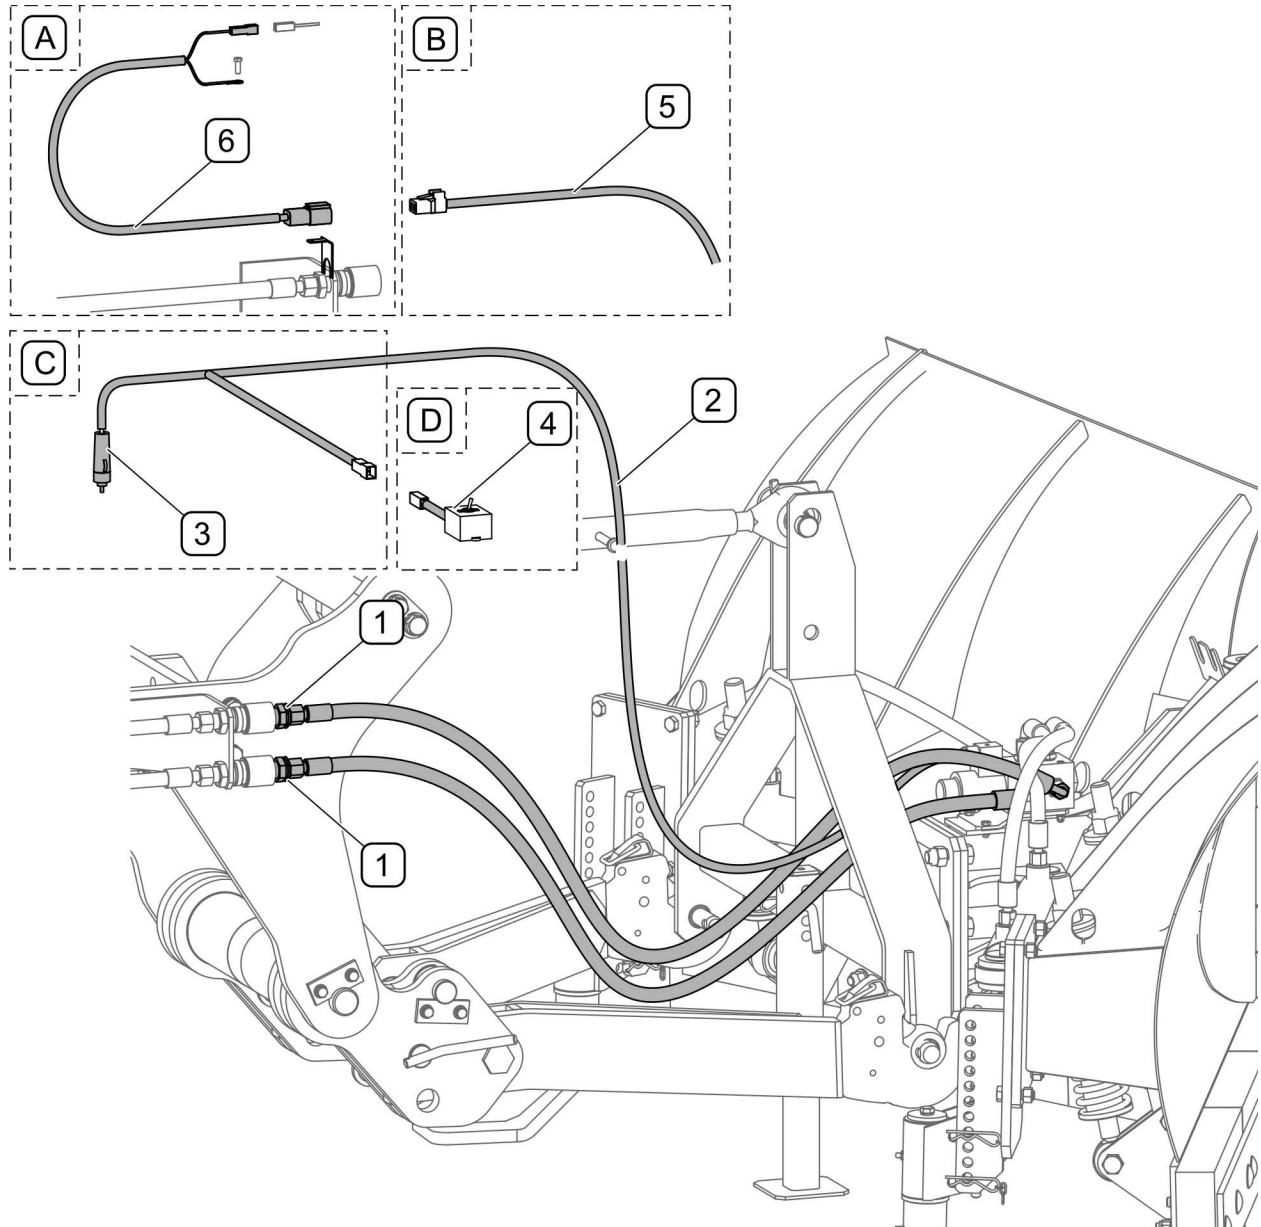

FIGURE 4.5 Connecting hydraulic and electrical system to tractor
Connect plough control hydraulic conduit connectors (1) to the tractor external hydraulic outlets (FIGURE 4.5). When connecting hydraulic conduits to the tractor make sure they are arranged without bends and twists, and are protected from damage.